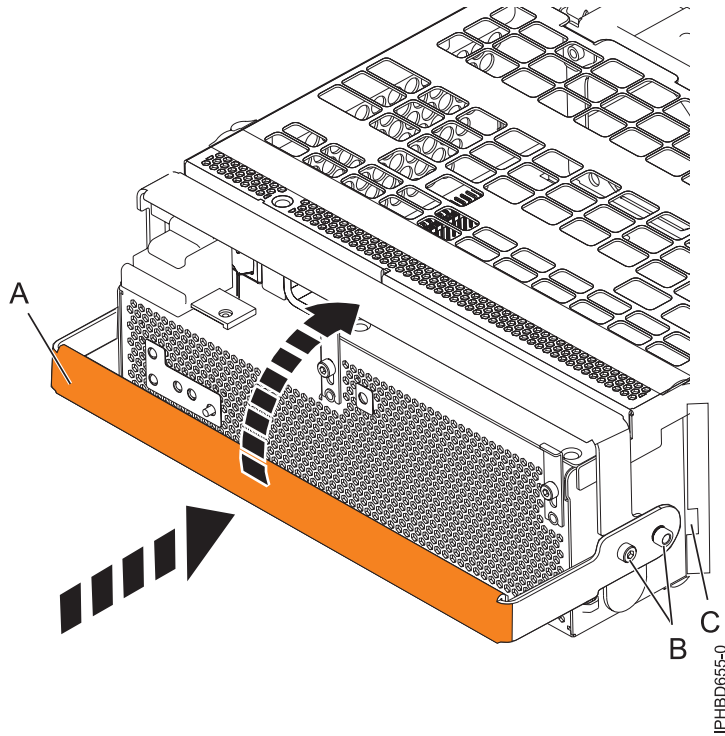

Figure 16. Replacing a power supply
6. To replace the power supply, with the locking handle **(A)** in the open position, push the power supply into the expansion unit as shown in Figure 16 on page 18.